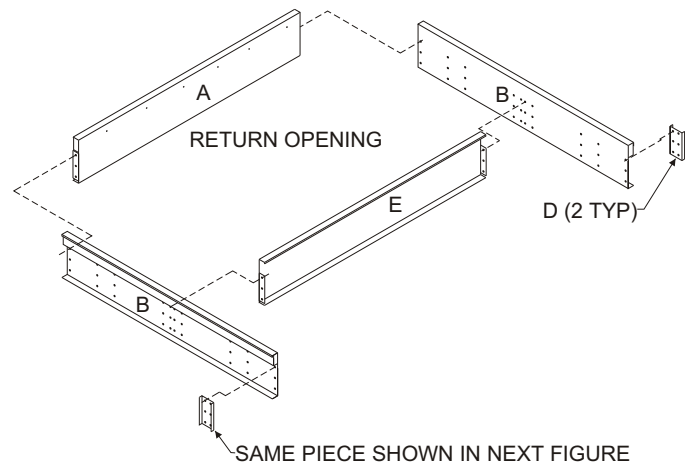

Figure 1
1. Layout the curb pieces as shown on Figure 1.
2. Install the $\frac{3}{8}$ " bolts on both ends of End Panel (A) and Brace Panel (E) through the designated holes in Side Panels (B). Make sure the corners are flush and square as shown in Figure 1. Tighten the hardware securely.